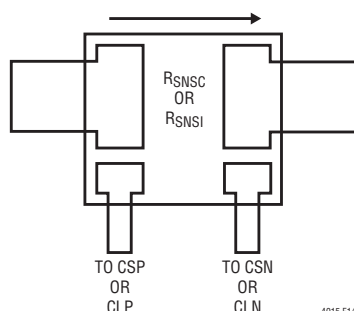

Figure 14. Kelvin Current Sensing
4. Route CSP and CSN sense lines together, keep them short. Place a 1nF ceramic capacitor across CSP-CSN as close as possible to the LTC4015. Filter components should be placed near the part and not near sense resistor. Ensure accurate current sensing with Kelvin connections at the sense resistors. See Figure 14.